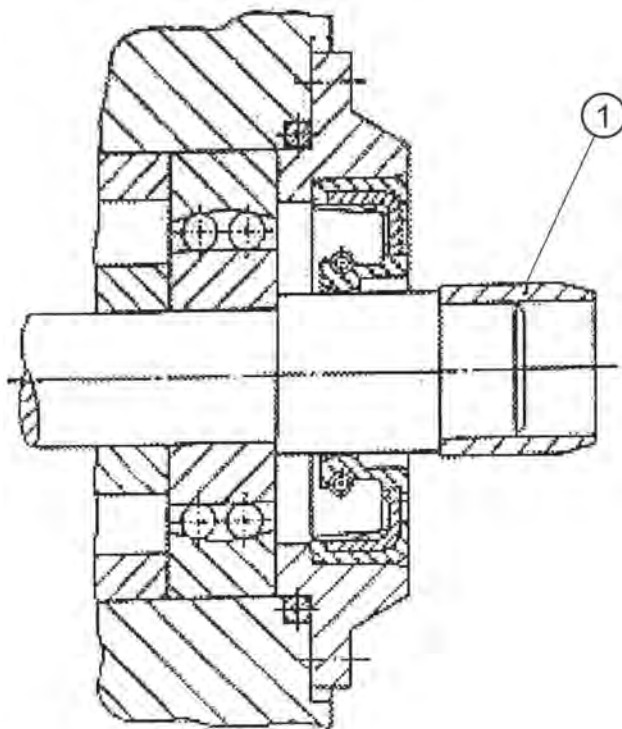
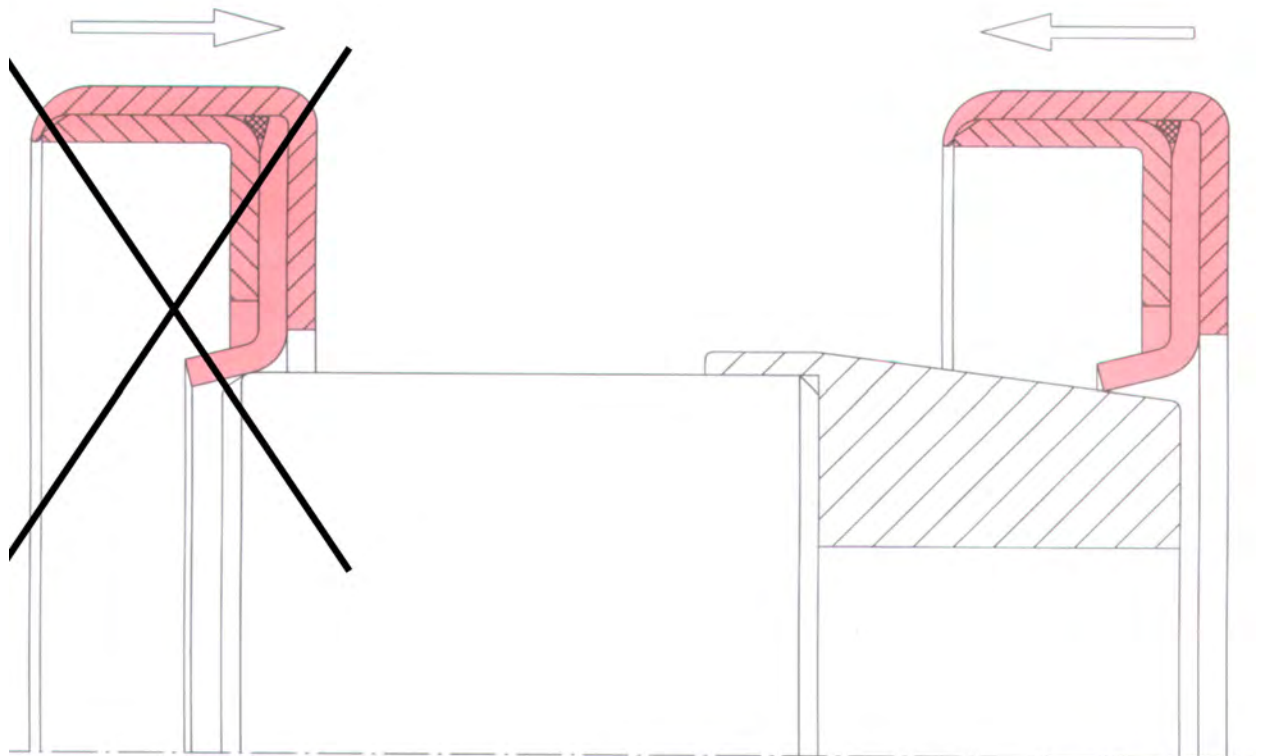
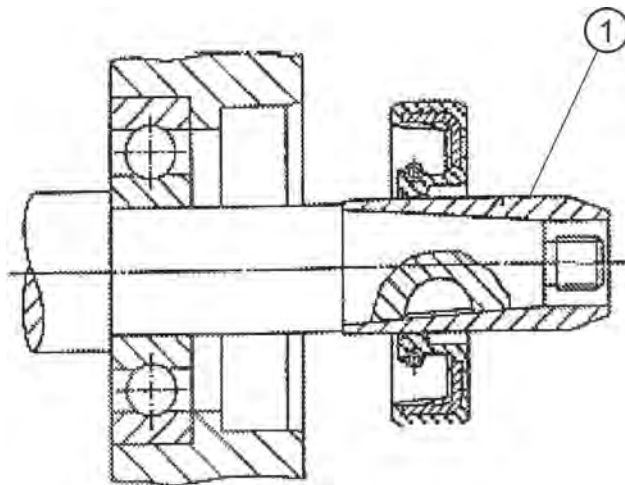

Figure 3: Assembly sleeve with chamfer
Figure 4: Installing rotary shaft seal with PTFE sealing lip
Figure 5: Assembly cover sleeve at keyway
6. If necessary, use mounting pins or assembly sleeves (e.g. V-engine at flywheel end, Figure 3), (for type 3 and type 6 engines, see Figure 4). You will need assembly sleeves if the sealing lip has to be fitted over a spline or shaft gearing (Figure 5). You have to use assembly sleeves in the case of silicon rubber or PTFE rotary shaft seals.
7. When installing the rotary shaft seal with PTFE sealing lip, make sure that it has been previously stretched for about one hour. A special pre-stretching sleeve or the assembly sleeve is used for this purpose. Before pulling the seal on to the sleeve, bend the sealing lip manually into the approximate setpoint position (Figure 4).